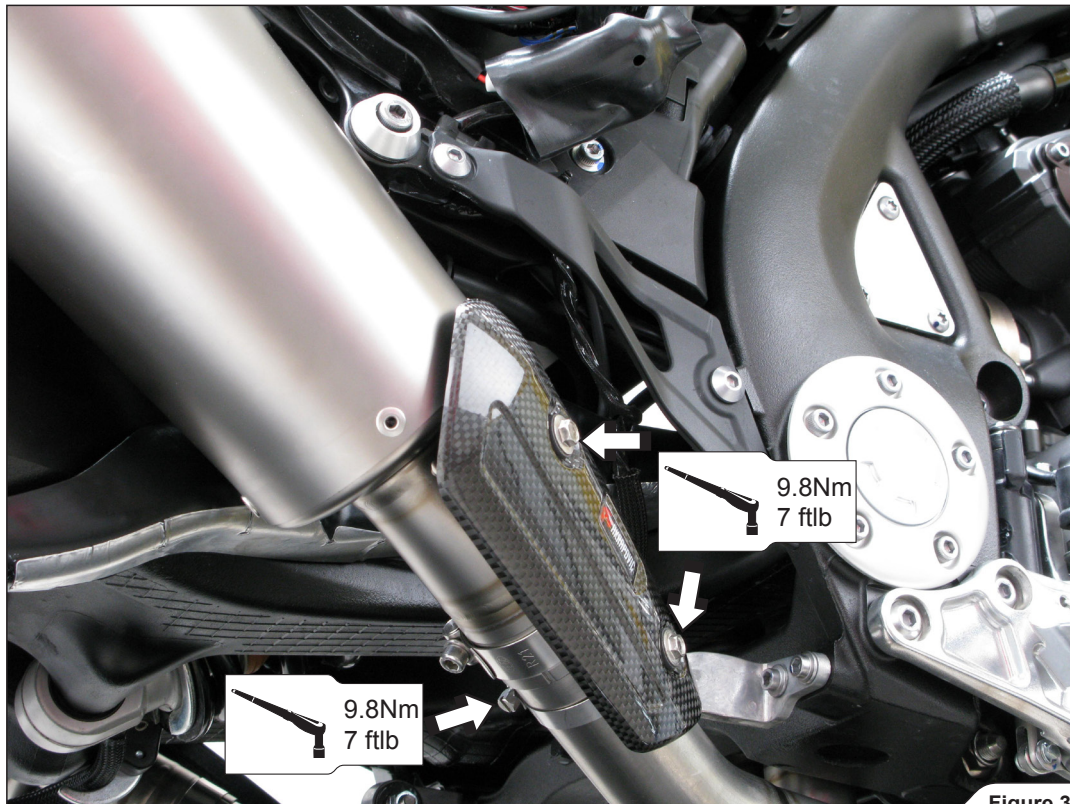

Figure 37
12. **For BOTH SLIP - ON sistem:** tighten the heat shield metal clamp and the heat shield's bolts (Figure 37). Perform the process on both sides of the motorcycle.